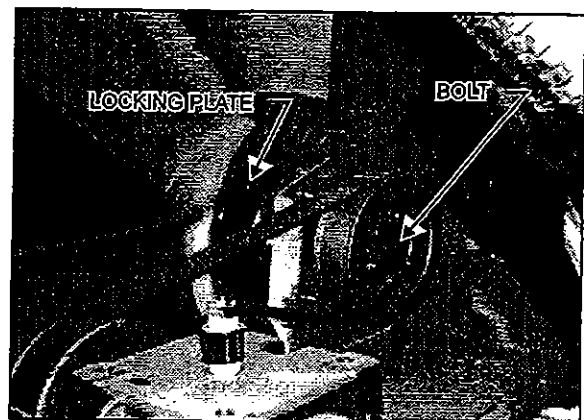

Figure 13: Mechanical Locking Device
**Caution:** Mechanical locking device. In case of an electrical power failure: unscrew the bolt from the end of the shaft and screw it into the locking plate. This procedure will prevent engine overheating (Fig. 13).